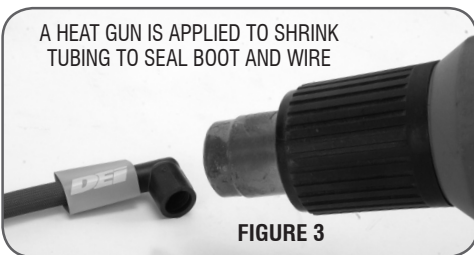

FIGURE 3
STEP 5: After you installed the sleeve on your ignition wire, position a shrink tube against each plug boot on each end of ignition wire slightly overlapping the boot and the sleeve. (See figure 3) The 3rd Hi-Temp shrink tube is placed at your discretion somewhere in the middle of the ignition wire.